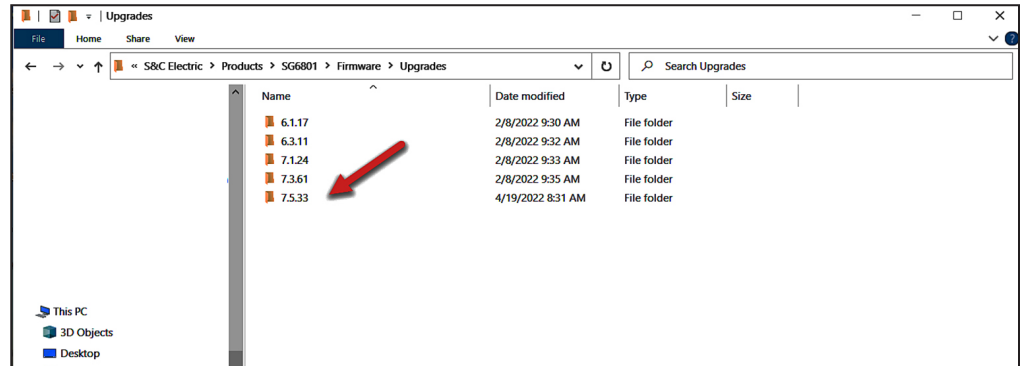

Figure 39. The C:\Program Files (x86)\S&C Electric\Products\<<product folder>\Firmware\Upgrades dialog box.
STEP 6. Open the Windows *File Explorer* screen and navigate to the program folder C:\Program Files (x86)\S&C Electric\Products\<<product folder>\Firmware\Upgrades. See Figure 39. Delete any folders that have a version number later than the target downgrade version.